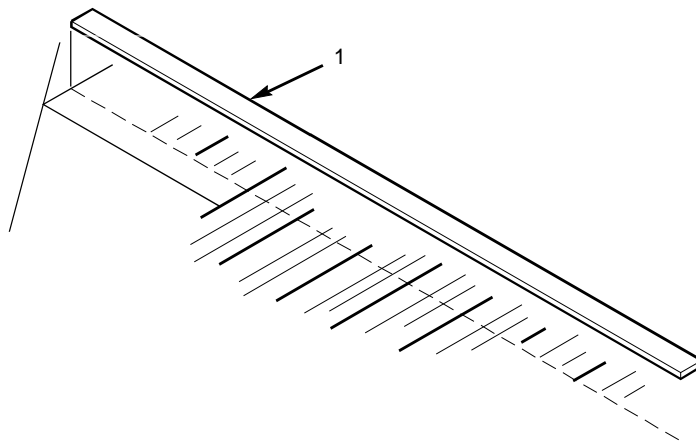

Figure 2-17. C-Partition Rubber Removal (4 Door Only)
6. Remove C-partition rubber as follows (see figure 2-17).
- a. Peel off rubber strip (1) from vehicle.